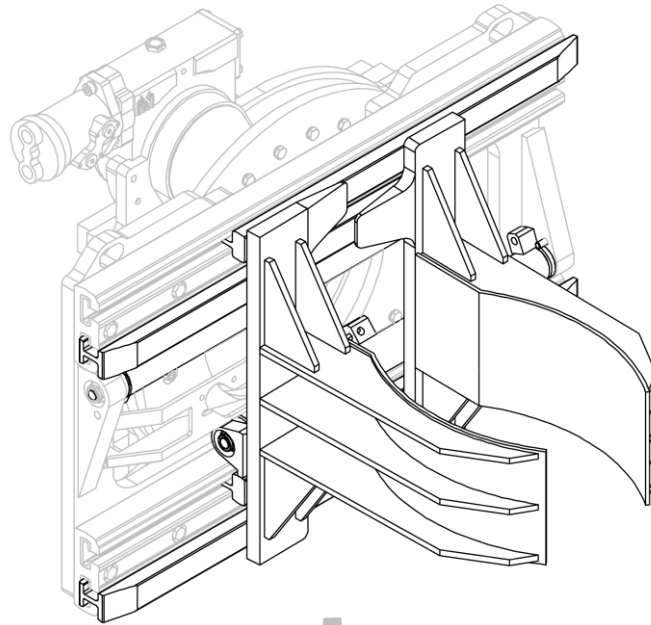
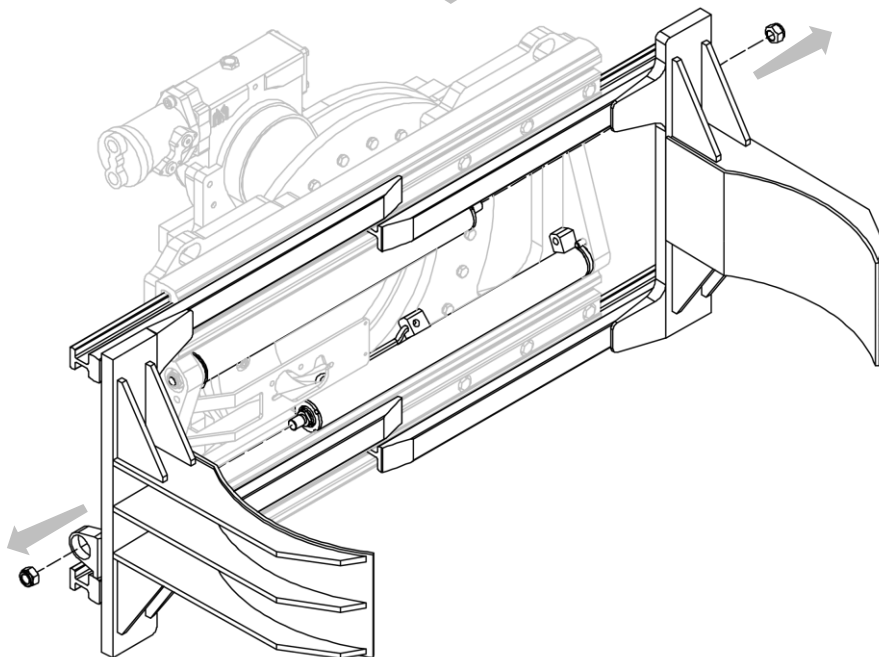

Figure 30
Figure 31
2. Remove fork assembly + jaws after unscrewing the nuts securing them to the cylinders (see *Figure 30* and *Figure 31*).